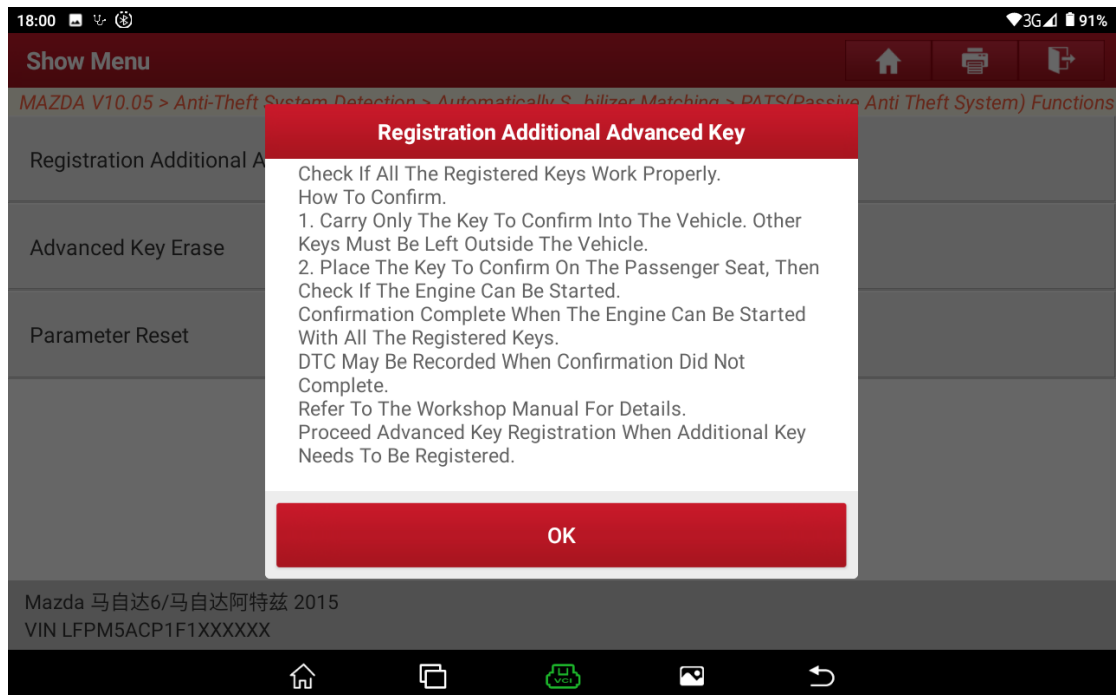

Figure A20
17. Prompt how to confirm whether the registered keys work properly. See Figure A20.